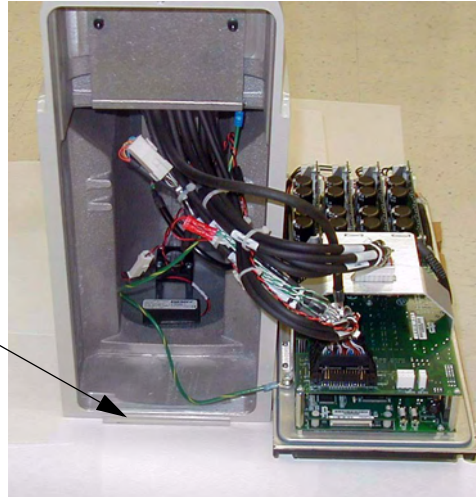

Figure 8-6. Installing AIB Chassis in Robot Base
8. Carefully insert the chassis into the robot base in the groove at the bottom of the base - see Figure 8-6. Tilt the chassis up and into place against the robot, making sure that none of the cables get trapped or pinched and that the chassis O-ring is not damaged during installation.